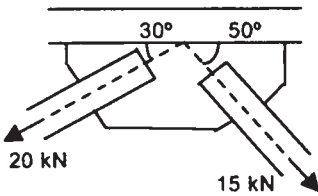

Figure 2.36 Problem 10
- 10 What is the resultant force acting on the gusset plate shown in Figure 2.36 as a result of the forces shown?